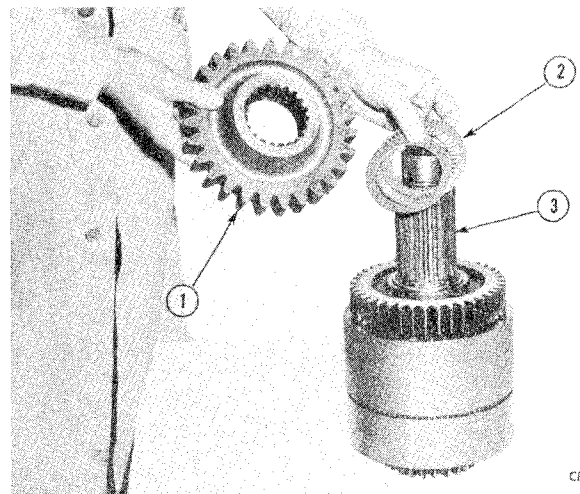

Figure 4-137
Install the upper thrust bearing assembly (2, Fig. 4-137) on the shaft (3). Install the output drive gear (1) with the extended hub towards end of shaft.